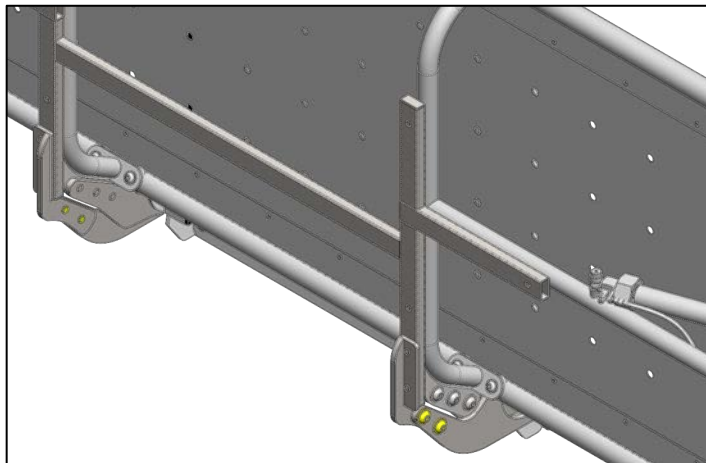
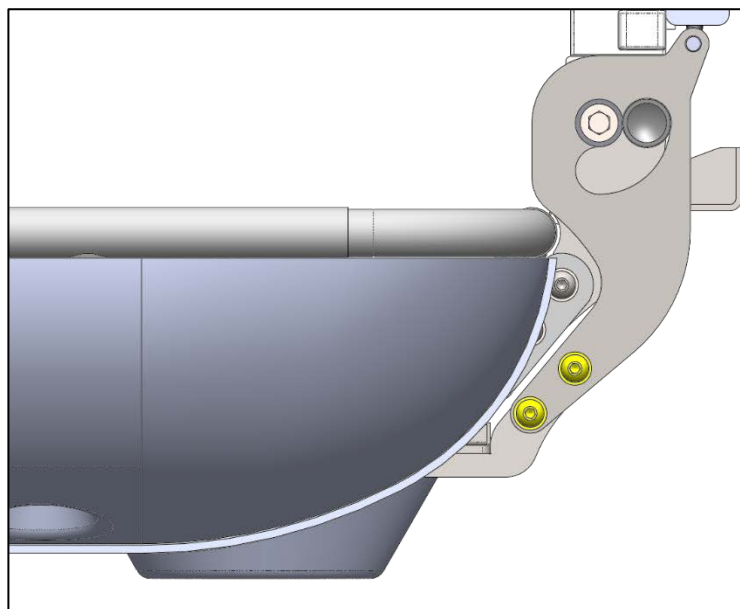

Fig.2
Fig.14
- Offer the drip tray frame up to the shower stretcher and secure in place using the M10x20 bolts and washers (highlighted in Fig.2). Ensure that the profiles of the drip tray frame and the arms on the shower stretcher back frame are aligned.
- Loosen the bolts highlighted in Fig.14 (these are the same as the bolts highlighted in Figure 2).